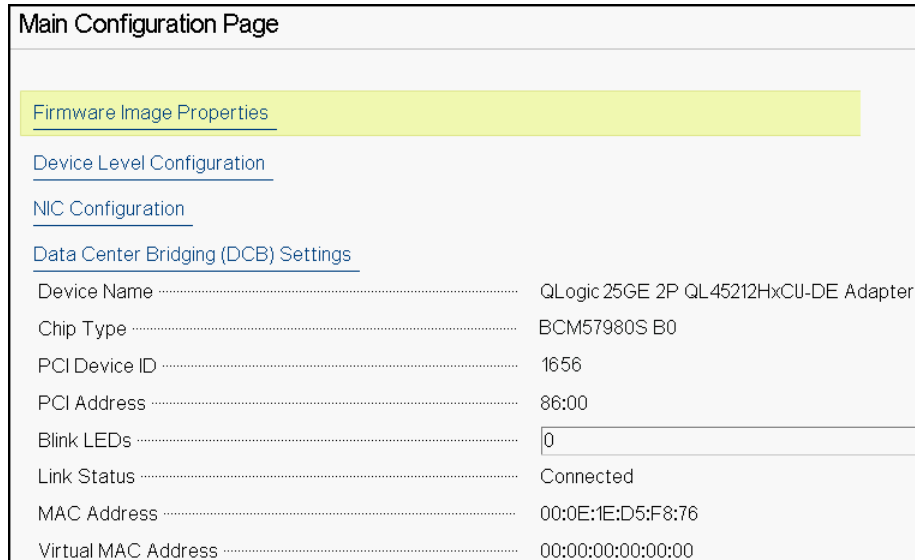
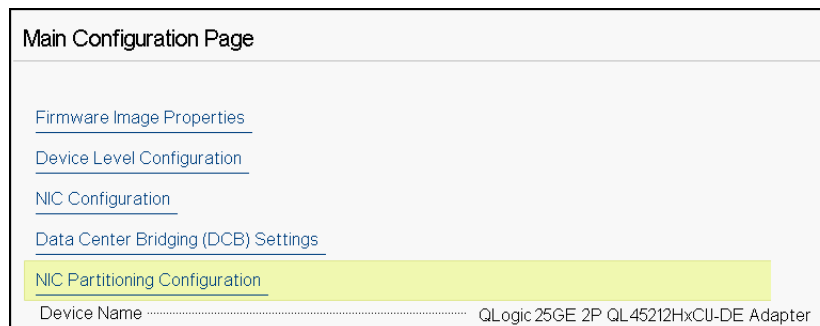

Figure 5-3. Main Configuration Page
Figure 5-4. Main Configuration Page, Setting Partitioning Mode to NPAR
The Main Configuration Page (Figure 5-3) presents the adapter management options where you can set the partitioning mode.
4. Under **Device Level Configuration**, set the **Partitioning Mode** to **NPAR** to add the **NIC Partitioning Configuration** option to the Main Configuration Page, as shown in Figure 5-4.
In Figure 5-3 and Figure 5-4, the Main Configuration Page shows the following:
1. On the Main Configuration Page (Figure 5-3 on page 42), select **Device Level Configuration**, and then click **Finish**.
1. On the Main Configuration Page, select **NIC Configuration** (Figure 5-3 on page 42), and then click **Finish**.